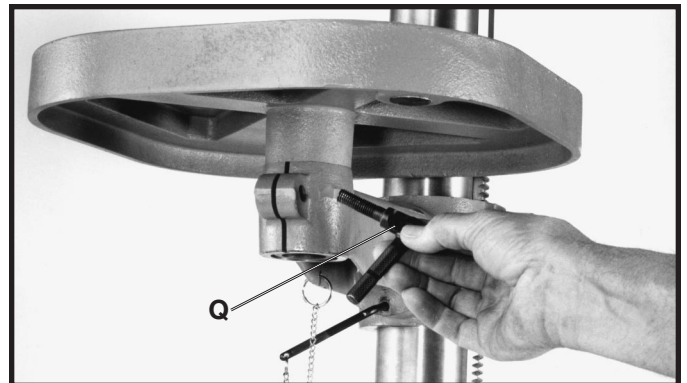

Fig. 13
9. Thread table lock lever (Q) Fig. 13, into hole in front of table bracket as shown.